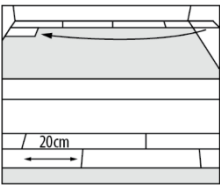

Figure 2
10. Begin the second row with the cut piece from the first row (Figure 2). If the cut piece is shorter than 20 cm (8 in), do not use it. Instead, begin with a new plank that is at least 20 cm in length and allows 20 cm between the end joints on the adjacent planks.